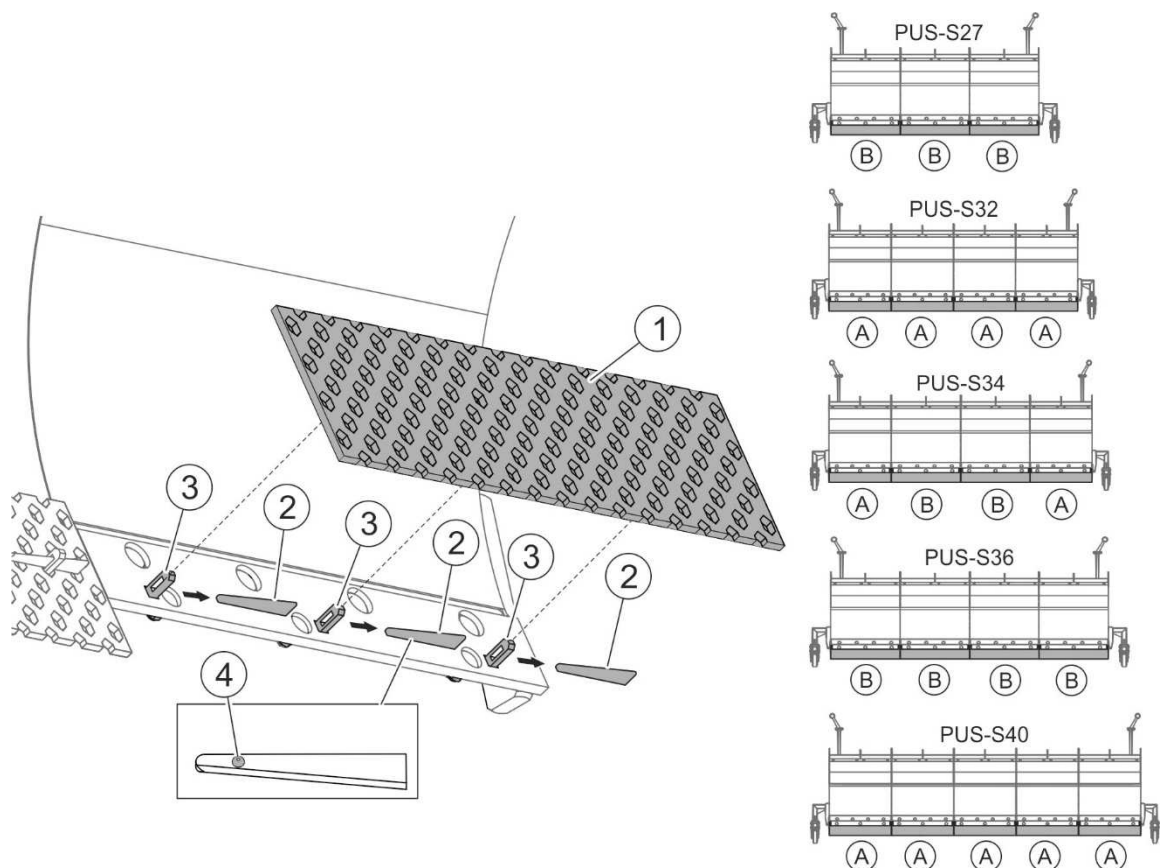

FIGURE 5.2 Replacement of perforated blades (option).
(1) - perforated blade; (2) - wedge; (3) - bolt for wedge; (4) - wedge protrusion; (A) - short segment; (B) - long segment
To remove perforated blade (1) (FIGURE 5.2) knock wedges (2) out of bolt holes (3) and then, take the blade off the bolts (3). After installation of proper blade segment (A) or (B), depending on the snowplough model (TABLE 5.2), force the wedges (2) into the bolt holes (3). Wedges (2) should be installed with protrusions (4) directed upwards.